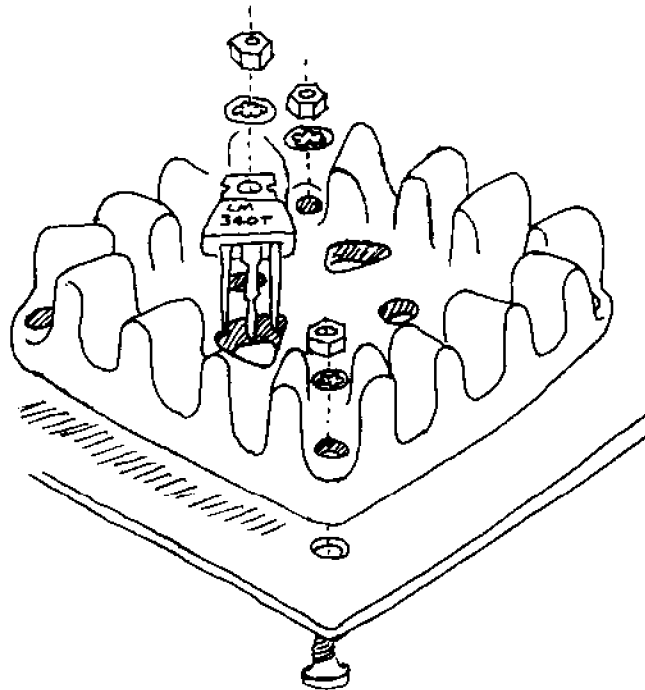

Figure 2-2. Heat sink and IC42 installation.
- ( ) Step 4. Install heat sink. Position the large, black heat sink (flat side to board) over the square foil area in the upper right corner. Orient the sink so that the triangle of mounting holes is under one of the triangular cut-outs in the sink. Using two 6-32 screws, lockwashers and nuts, attach heat sink to board. Insert screws from back (solder) side of board. (Refer to Figure 2-2 on Page II-8.)
- ( ) Step 5. Install IC42 (340T-5.0 or 7805UC). Position IC42 on heat sink and observe how the leads must be bent to fit the mounting holes. Note that the center lead (3) must be bent downwards at a point approximately 0.2 inches further from the body than the other leads. Bend the leads so that no contact is made with the heat sink when IC42 is flat against the sink and its mounting hole is aligned with the hole in the sink. Fasten IC42 to sink using 6-32 screw, lockwasher and nut. Insert screw from back (solder) side of board. Solder and trim leads. (Refer to Figure 2-2.)